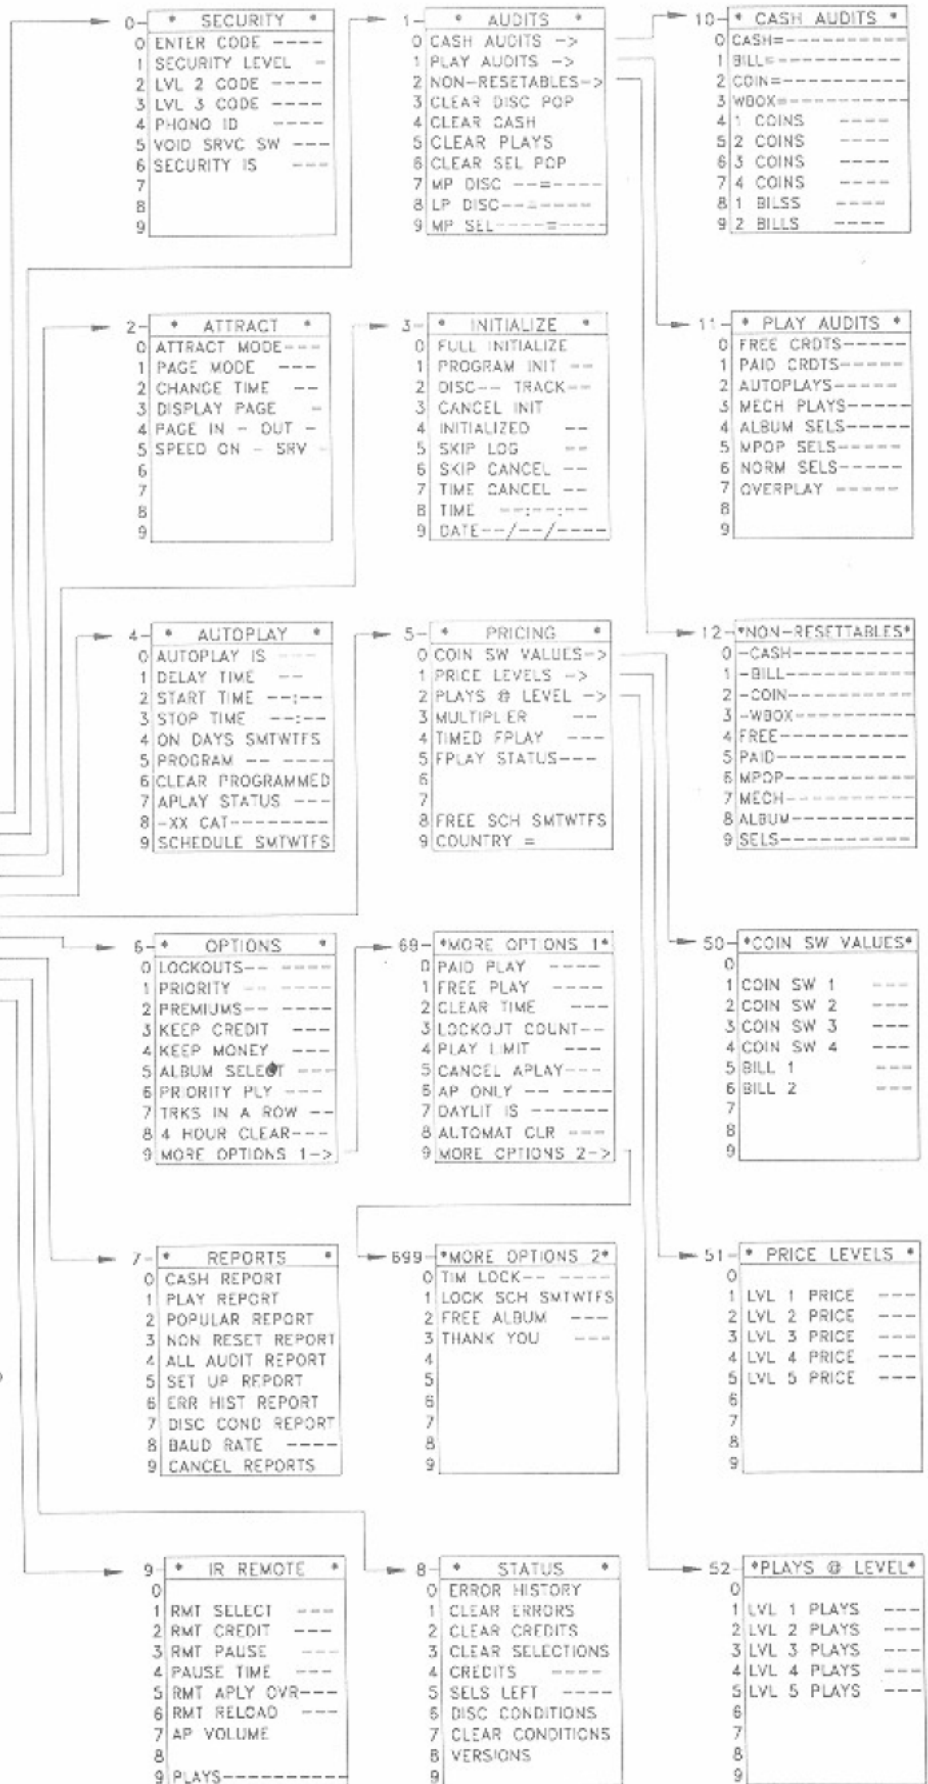

Figure 2-11. Service Mode Map
To view a menu option, hold down the RESET button and press either the 0 digit or the 1 digit. The 1 digit will move you down one item and the 0 will move you up one item. This method of viewing menu options will allow you to view your options in any menu (or submenu). Refer to *figure 2-11, the Service Mode Map*, and note that an arrow following the command indicates that a submenu exists. Press the POPULAR key to enter a submenu. Hold the RESET key and press the POPULAR key to exit a submenu.
CD-100C Commands are formed by combining the numbers that appear on the left side of the menus that appear in *figure 2-11*. To construct and use CD-100C commands, you need to refer to *figure 2-11* or *table 2-4*.
As An Example: You want to view the number of cycles that the CD mechanism has made. Using *figure 2-11*, you determine that you need to select AUDITS (1), on the main menu; NON-RESETTABLES (2), on the AUDIT menu; and MECH (7), on the NON-RESETTABLES menu. Use the digits to form a numeric command, which is 127. Type 127 and The number of mechanism cycles is displayed.
The SERVICE MODE menu (referred to as the "MAIN menu") is the starting point for all service, pricing, and programming functions. This menu contains the general title for each submenu. Some of the submenus contain commands only. Other submenus contain both commands and further submenu names. Refer to *figure 2-11, the CD-100C Service Mode Map*, for an illustration of the following menu descriptions: